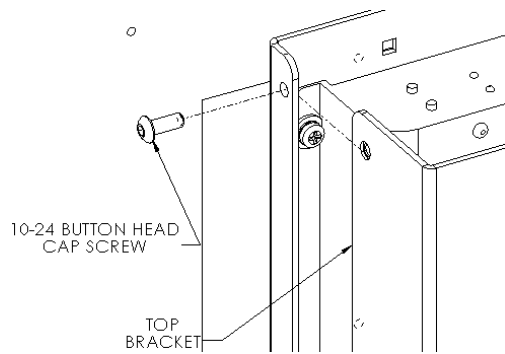
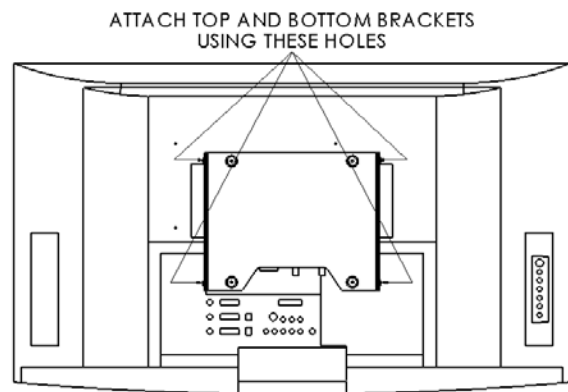

**Figure 6**
**Figure 7**
4. Attach media box to bottom bracket using the 8-32 Phillips screws (see Figure 6 and Figure 7). Do not over tighten screws.